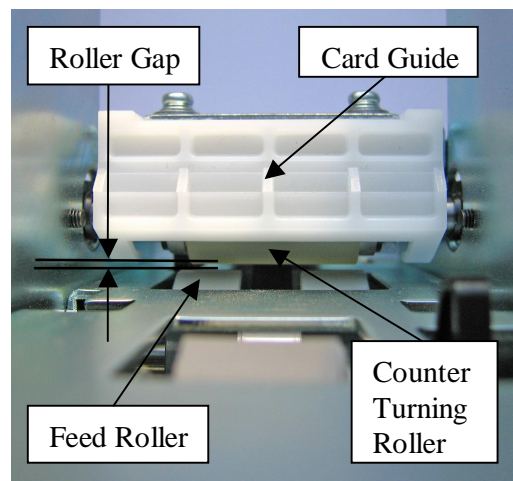

Figure 5.5
- 5.3.6 Select the appropriate feeler gauge for the card thickness (see Table 5.4) and evenly adjust the four grub screws (part no. 8) to achieve the desired roller gap, ensuring an even gap between the counter turner roller and feeder roller at either side. See Figure 5.5.